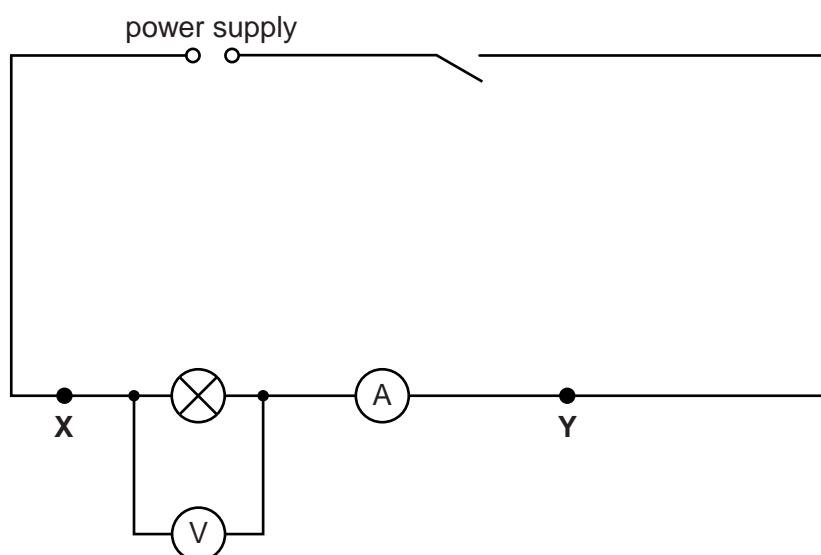

Fig. 3.1
- (iv) Sufficient connecting leads to set up the circuit shown in Fig. 3.1, with 5 additional leads (see notes 1 and 2).
1. One lamp should be connected, with the ammeter and voltmeter, between terminals marked **X** and **Y** as shown in Fig. 3.1. Candidates will be expected to insert components between terminal **Y** and the switch, but will be told not to change the connections between terminals **X** and **Y**.
2. The circuit is to be set up for candidates as shown in Fig. 3.1.
Reconnect the circuit as shown in Fig. 3.1.